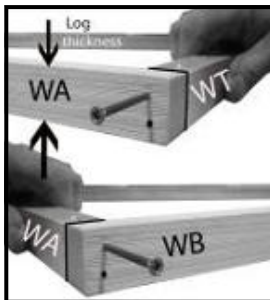

Fig A1
4. Lay out the parts **WA** and **WB** and **WT** as in the inner frame assembly drawing. The narrowest (25mm) edge to the work bench and the side the size is the same as the log thickness as shown in fig A1 . Part **WT** must be inside parts **WA** and part **WB** underneath the two **WA** parts (Fig A1) .
6. Pre drill 2 3mm holes at one end of the **WA** only and at both ends of the **WB** parts (see drawing)and screw together at each corner,10mm in from the edge (ensuring each corner is flush) with 2x50mm screw (fig A1).